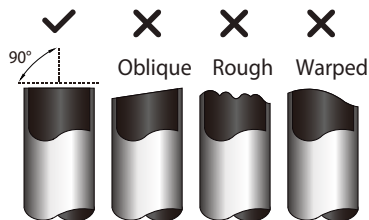

Fig. 47 — Pipe Cutting
- a. Cut the pipe, with a pipe cutter, at 90 degrees (see Fig. 47).